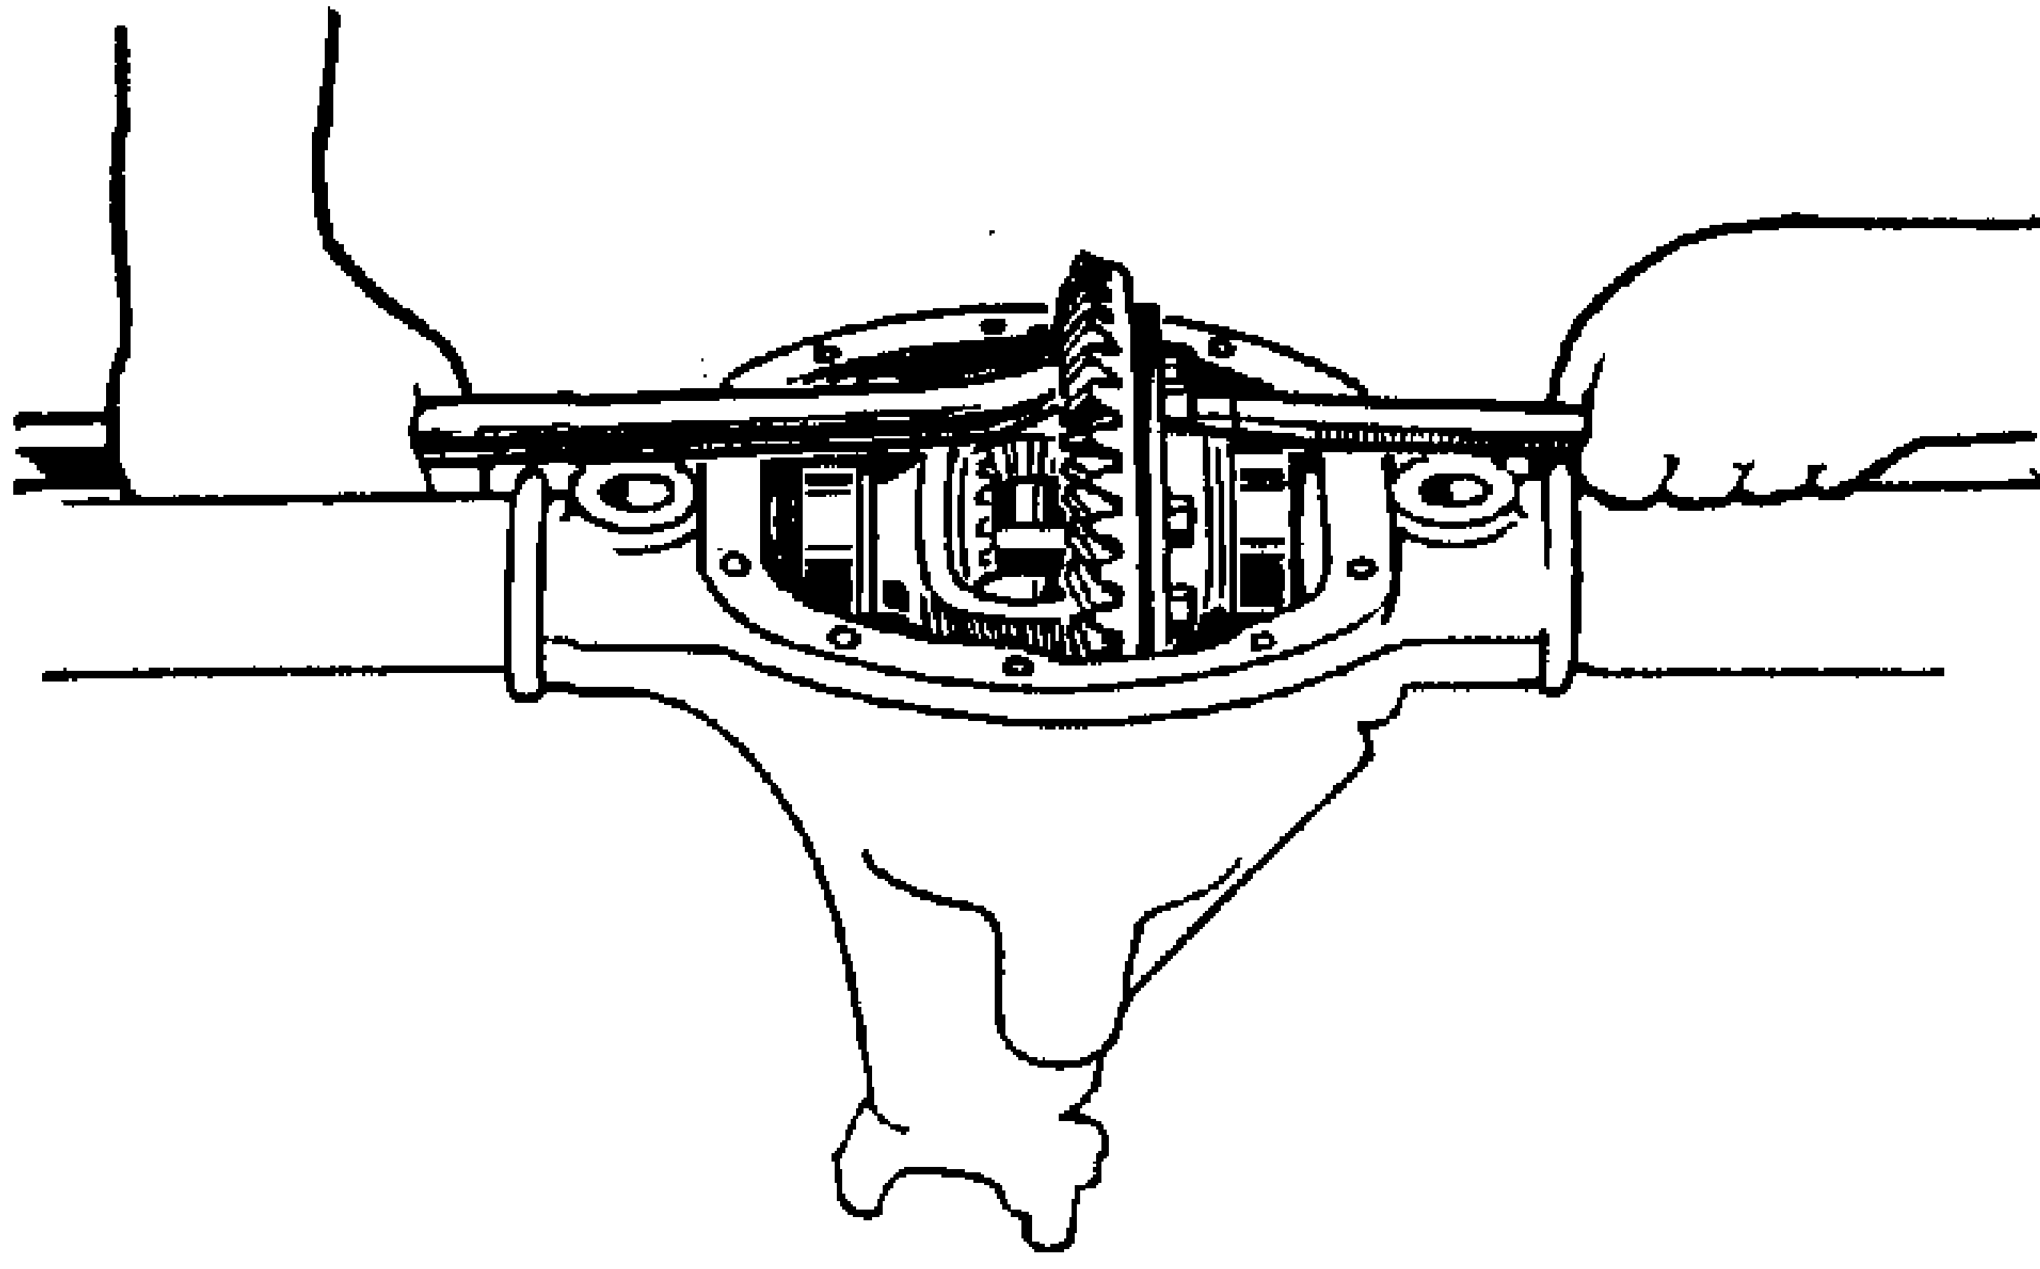

FIG. 2--REMOVING DIFFERENTIAL
3. Using two pry bars, one on each side of the ring gear parallel with the tube of the axle housing, pry out the differential assembly as shown in Fig. 2.